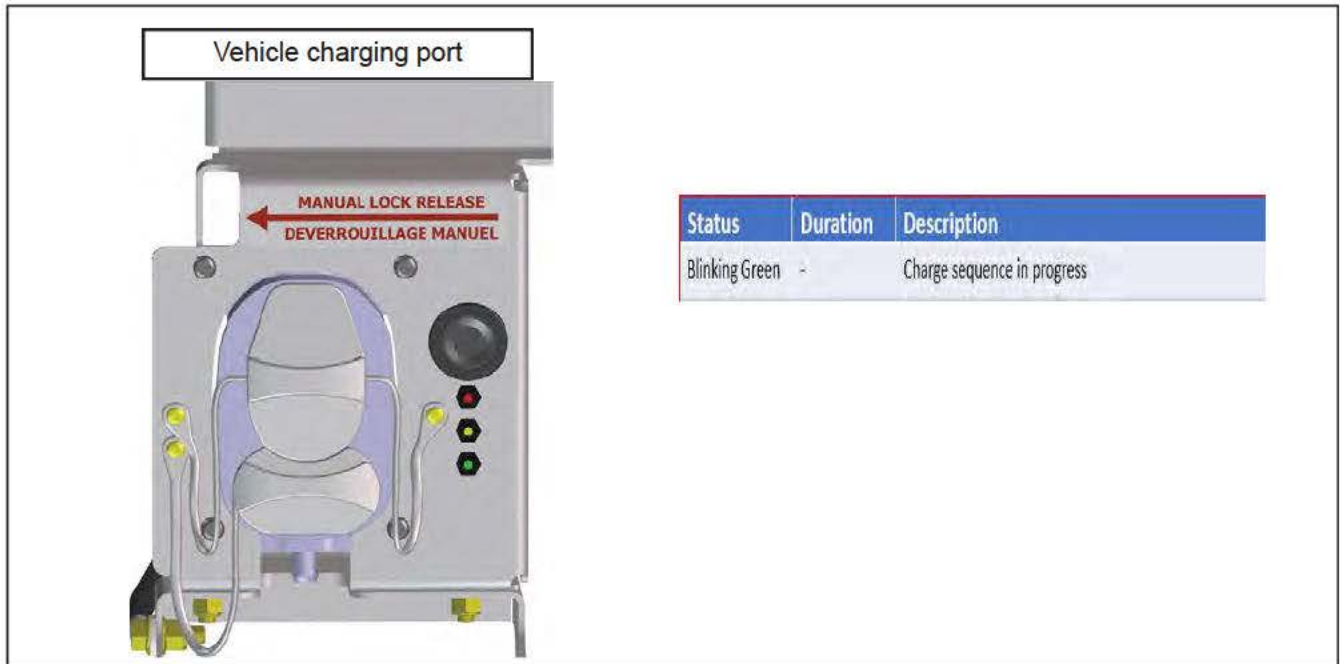

Figure 7 - Vehicule Charging Port
d. Verify that the green LED is flashing on the vehicle charging port. See Figure 7.